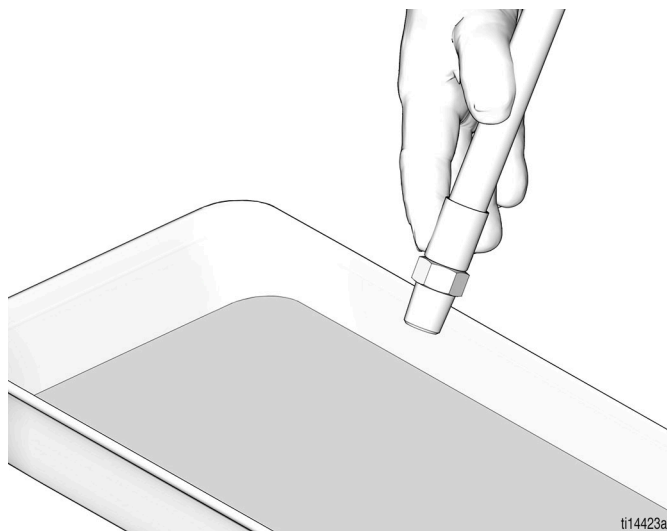

FIG. 2
1. Place the end of the hose into a grounded metal waste container. Hold the hose firmly against the waste container throughout the flushing process (FIG. 2).